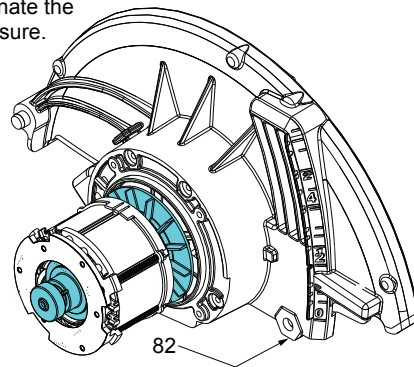

Figure 2
- Insert the rotor/stator assembly into pinion bore of the Upper Guard Gearcase Assembly (82). Carefully wiggle and push the rotor/stator until the ball bearing in front of the fan is fully seated in the bearing bore of the gearcase. See figure 2.
- Figure 2:**